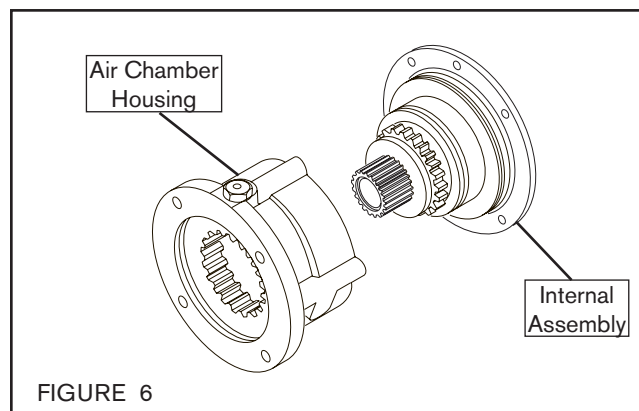

FIGURE 6
5. Slide the Air Chamber Housing (Item 2) off the internal assembly of the SE Brake (See Figure 6).